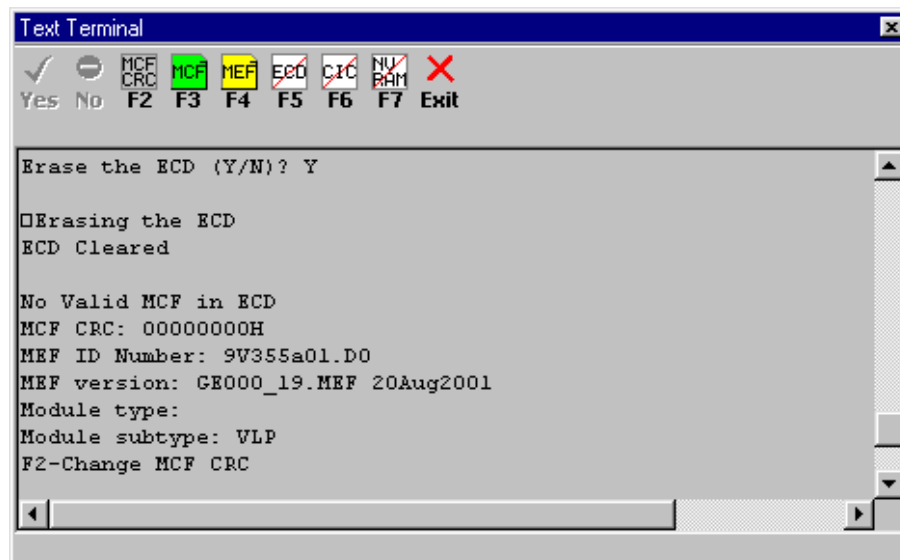

Figure 3-33
5. The system responds by displaying “Erasing the ECD” (refer to figure 3-33), as the CPU/CPU2 module in the GEO™ unit sweeps a zero back and forth across the 4-character display.
6. When the ECD has been erased, the message “ECD Cleared” (refer to figure 3-33) is displayed on the Text Terminal screen as the 4-character display on the GEO™ unit CPU/CPU2 module reads “BOOT”.